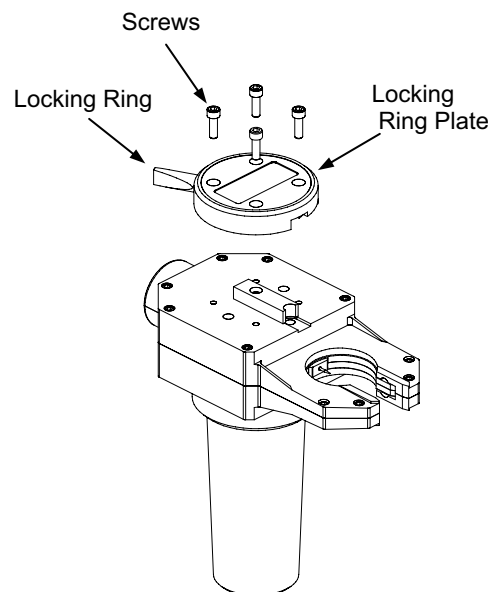

Figure 24 Removing the Locking Ring and Locking Ring Plate
2. Remove the four screws, locking ring, and locking ring plate. See Figure 24.